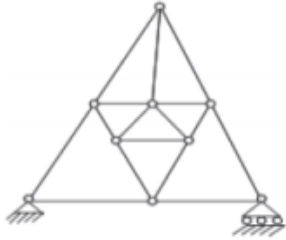

Fig.1a
1. (a) Determine the static and kinematic indeterminacies of the two pin-jointed trusses shown in **fig.1a** and **1.b** **7M**